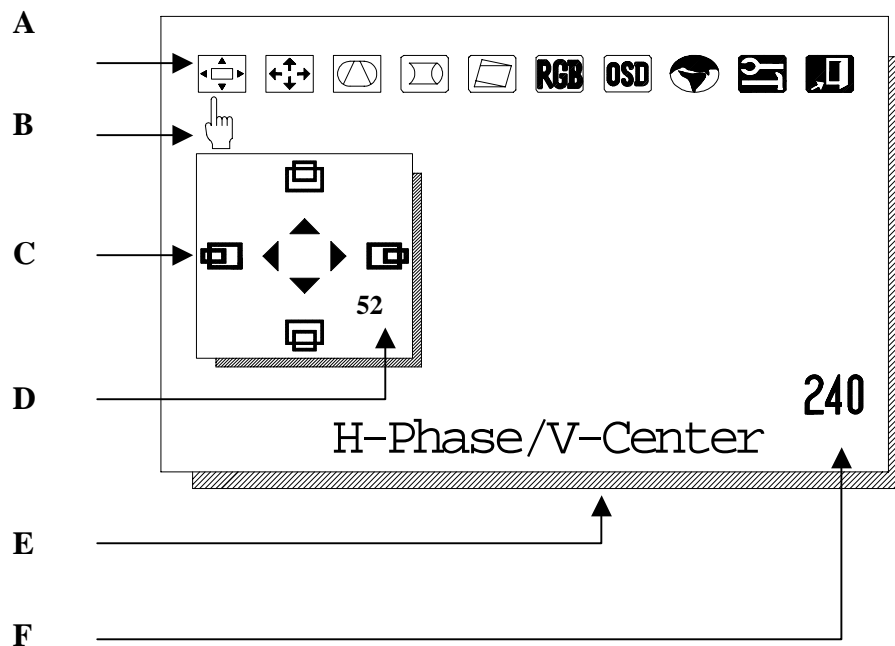

Figure 7 Function Menu
- (1). Press “Menu” key to enter the OSD menu containing 10 functions as shown in figure 7
- (2). **Select adjustment function**
Make the adjustment using the four function control keys. Please refer to the Figure 7 for advanced operation.
(Please refer to the figure 7)